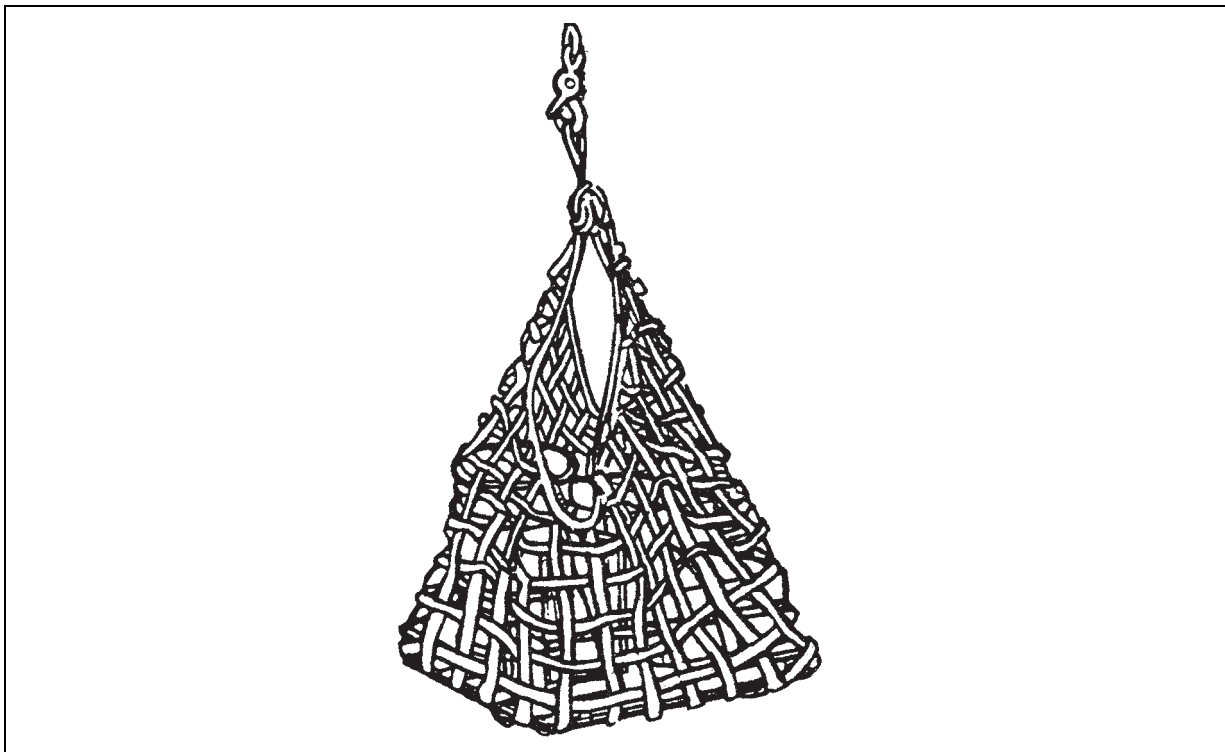

Figure 9-3. Nylon Cargo Net, Mk106 Mod 0 Cargo Pallet Net, and Becket
- **Cargo Nets.** Most VERTREP cargo is moved in nylon cargo nets made of 1 1/2-inch wide nylon webbing (figure 9-3). Overall net size is 12 feet by 12 feet or 14 feet by 14 feet. Oval metal rings on each of the four corners are used to lift the net. Rough handling, such as dragging, causes extensive damage to nylon webbing and should be avoided.